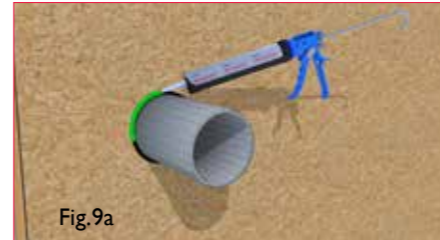

Fig.9a
2. Fill remaining joints, gaps and cracks less than 6mm with Wraptite LF and smooth across the rough surface with a putty knife (Figs 9a,b).